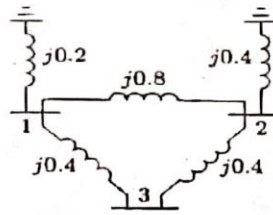

Figure. 3
13. (a) Construct Z Bus for the given network shown in Figure. 3 (13)